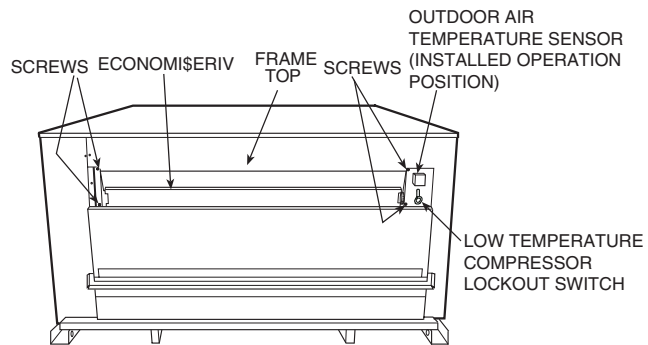
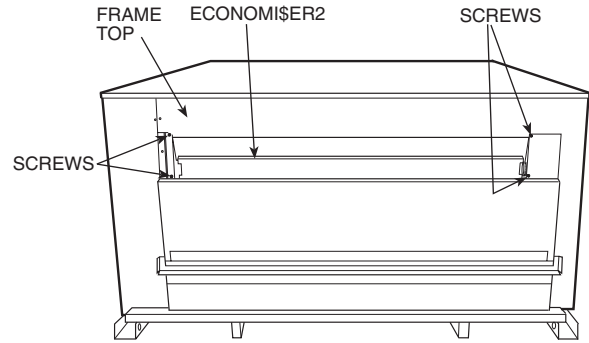
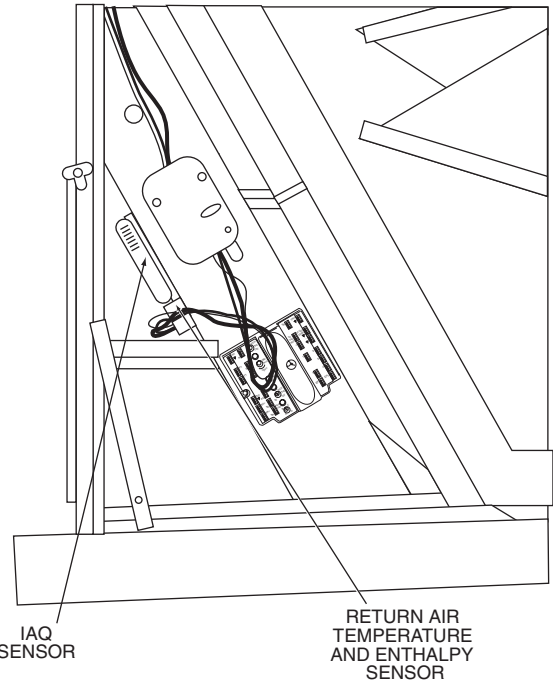
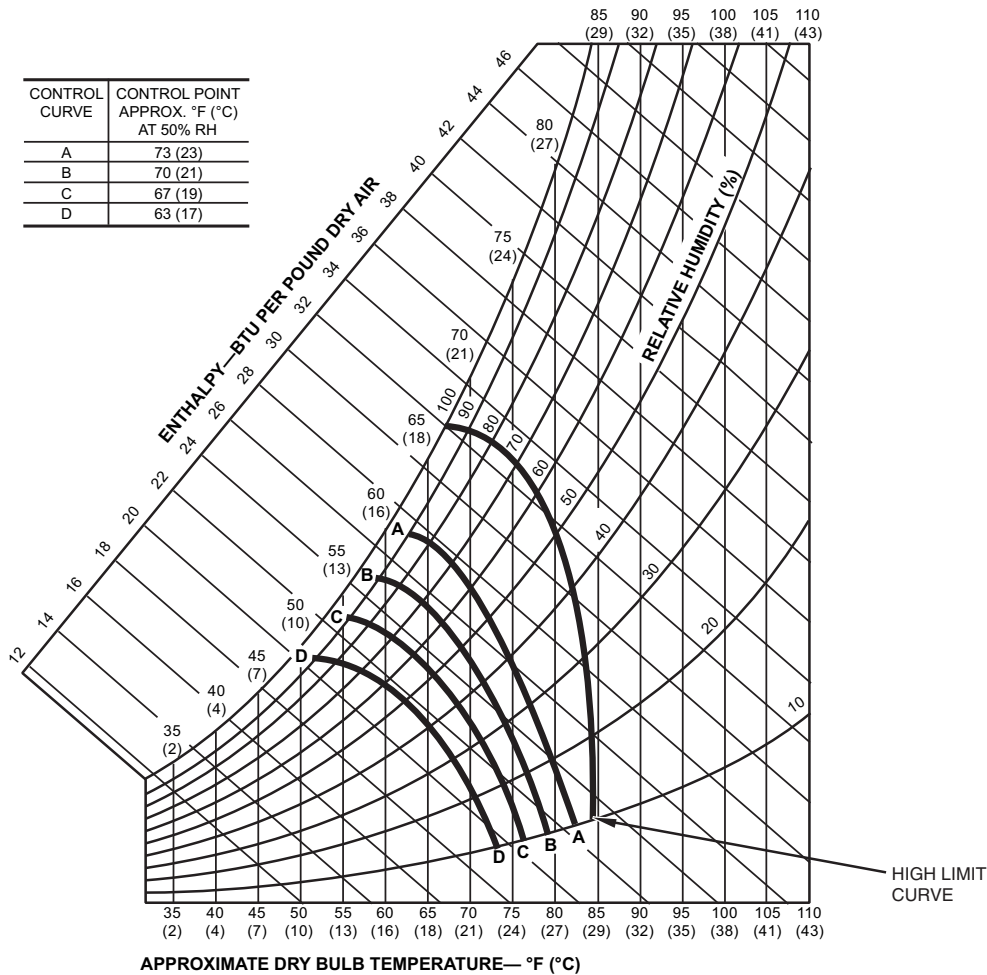

Fig. 30 — EconoMiSerIV Component Locations — End View
Fig. 32 — EconoMiSer2 Component Locations
Fig. 37 — Return Air Temperature or Enthalpy Sensor Mounting Location
Fig. 38 — Enthalpy Changeover Set Points
OPTIONAL ECONOMISERIV AND ECONOMISER2 — See Fig. 30 and 31 for EconoMiSerIV component locations. See Fig. 32 for EconoMiSer2 component locations.
2. Relocate outdoor air temperature sensor from shipping position to operation position on EconoMiSerIV. See Fig. 30.
Outdoor Air Temperature (OAT) Sensor — The outdoor air temperature sensor (HH57AC074) is a 10 to 20 mA device used to measure the outdoor-air temperature. The outdoor-air temperature is used to determine when the EconoMiSerIV can be used for free cooling. The sensor must be field-relocated. See Fig. 30. The operating range of temperature measurement is 40 to 100 F.
Low Temperature Compressor Lockout Switch — The EconoMiSerIV is equipped with an ambient temperature lockout switch located in the outdoor airstream which is used to lockout the compressors below a 42 F ambient temperature. See Fig. 30.
Differential Dry Bulb Control — For differential dry bulb control the standard outdoor dry bulb sensor is used in conjunction with an additional accessory return air sensor (part number CRTEMPSN002A00). The accessory sensor must be mounted in the return airstream. See Fig. 37.
Outdoor Enthalpy Changeover — For enthalpy control, accessory enthalpy sensor (part number HH57AC078) is required. Replace the standard outdoor dry bulb temperature sensor with the accessory enthalpy sensor in the same mounting location. See Fig. 30. When the outdoor air enthalpy rises above the outdoor enthalpy changeover set point, the outdoor-air damper moves to its minimum position. The outdoor enthalpy changeover set point is set with the outdoor enthalpy set point potentiometer on the EconoMiSerIV controller. The set points are A, B, C, and D. See Fig. 38. The factory-installed 620-ohm jumper must be in place across terminals SR and SR+ on the EconoMiSerIV controller. See Fig. 33 and 39.
Replace the standard outside air dry bulb temperature sensor with the accessory enthalpy sensor in the same mounting location. See Fig. 30. Mount the return air enthalpy sensor in the return airstream. See Fig. 37. The outdoor enthalpy changeover set point is set with the outdoor enthalpy set point potentiometer on the EconoMi\$erIV controller. When using this mode of changeover control, turn the enthalpy set point potentiometer fully clockwise to the D setting.